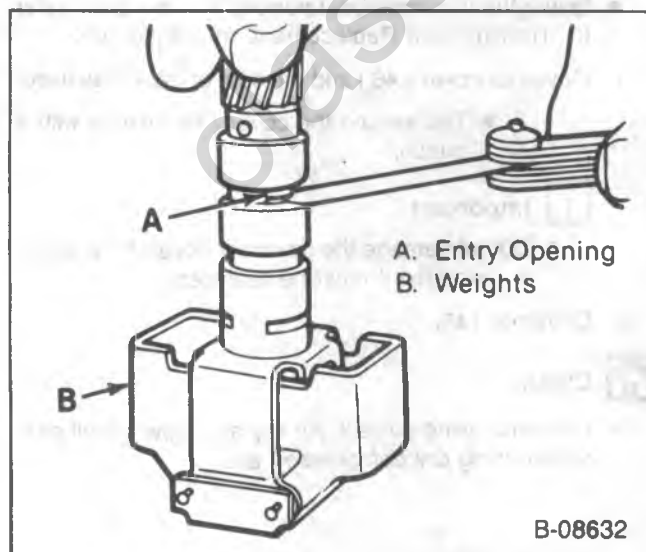

Figure 61—Measuring the Governor Valve Entry, Opening
- Valve entry opening. With the weights held all the way outward, the opening should be 5.1 mm (0.020 in.) (figure 61).